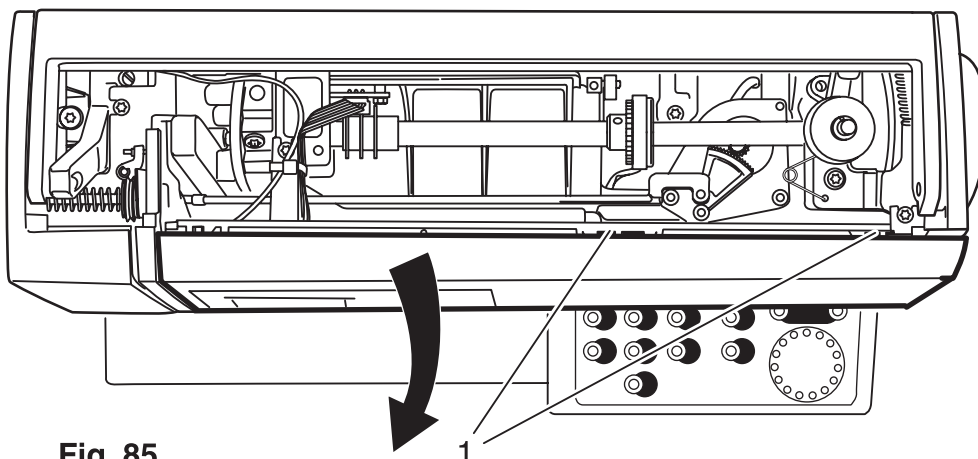

Fig. 85
- Raise both lugs 1 slightly and remove the facing panel of the front housing panel in the direction of the arrow (fig. 85).